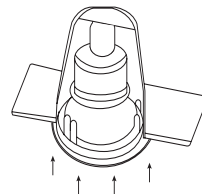

Figure 2.4
8. Squeeze the opposing tension clips toward the luminaire until the clips fit inside the CAN then carefully insert LED Retrofit Trim into CAN allowing springs to expand to hold Trim in CAN (Fig 2.4).